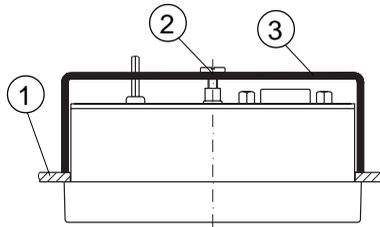

Fig. 2: Mounting EG30
- PE-connection with 2.5 – 4 mm2 via PE-clamp (fig. 2).